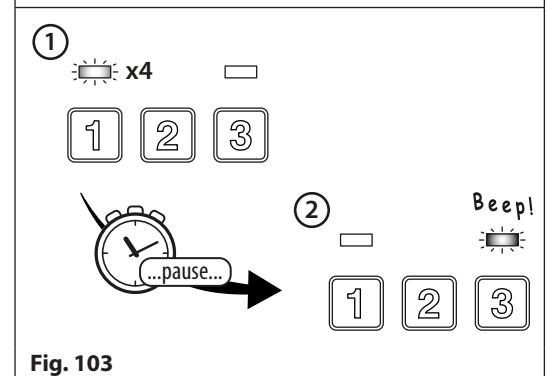

Fig. 103
2. The codelock will emit a low tone and the green data LED (**Fig.103, ①**) will flash 4 times followed by a brief pause;
3. The red status LED (**Fig.103, ②**) will then flash once and the codelock will emit a single beep.